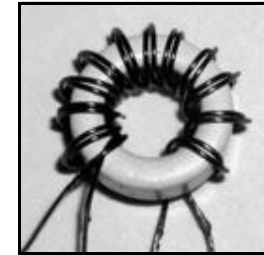

Figure 20
- Wind 12 turns of the twisted wires onto the large ferrite core (FT50-43). The turns should cover about 80-90% of the core, as shown in Figure 20.